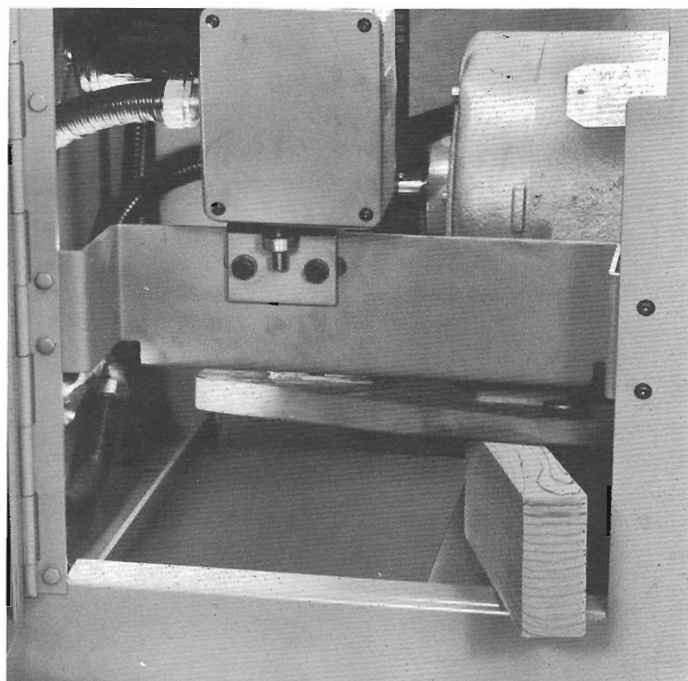

Figure 9 — Motor Mounting Plate Raised and Blocked
5. Raise front of motor mounting plate approximately 2" and block, Figure 9.